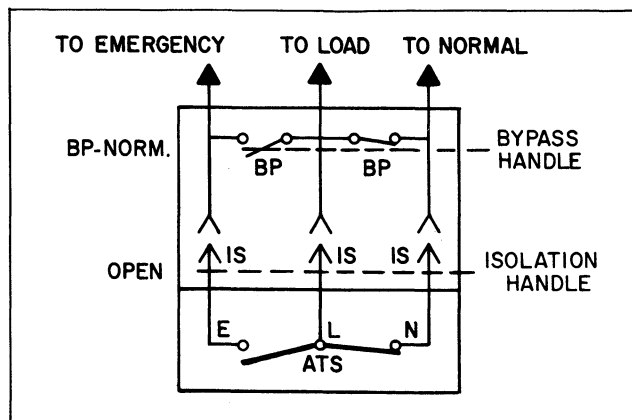

Figure 5. Isolation
2. Isolate Automatic Transfer Switch as follows (Figure 5).